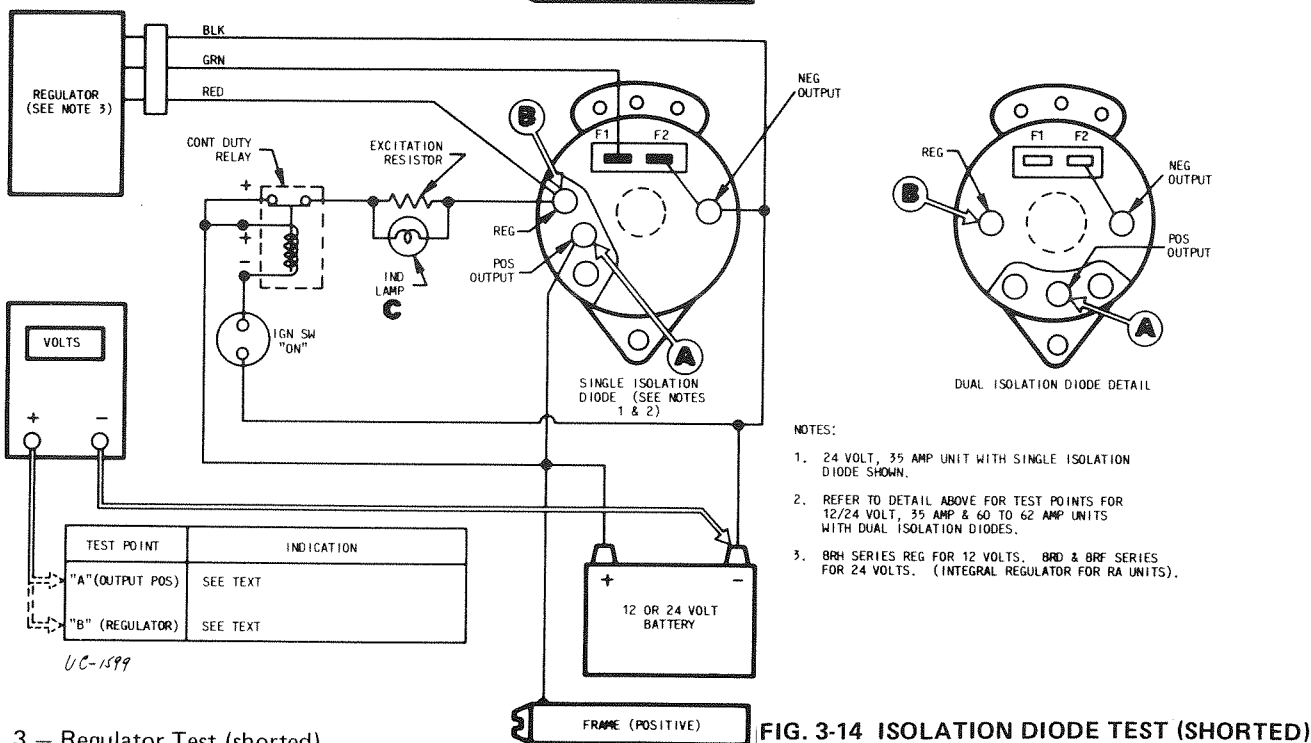

FIG. 3-14 ISOLATION DIODE TEST (SHORTED)
**CONDITIONS:** Engine idling (after voltmeter is connected as shown in Figure 3-14).